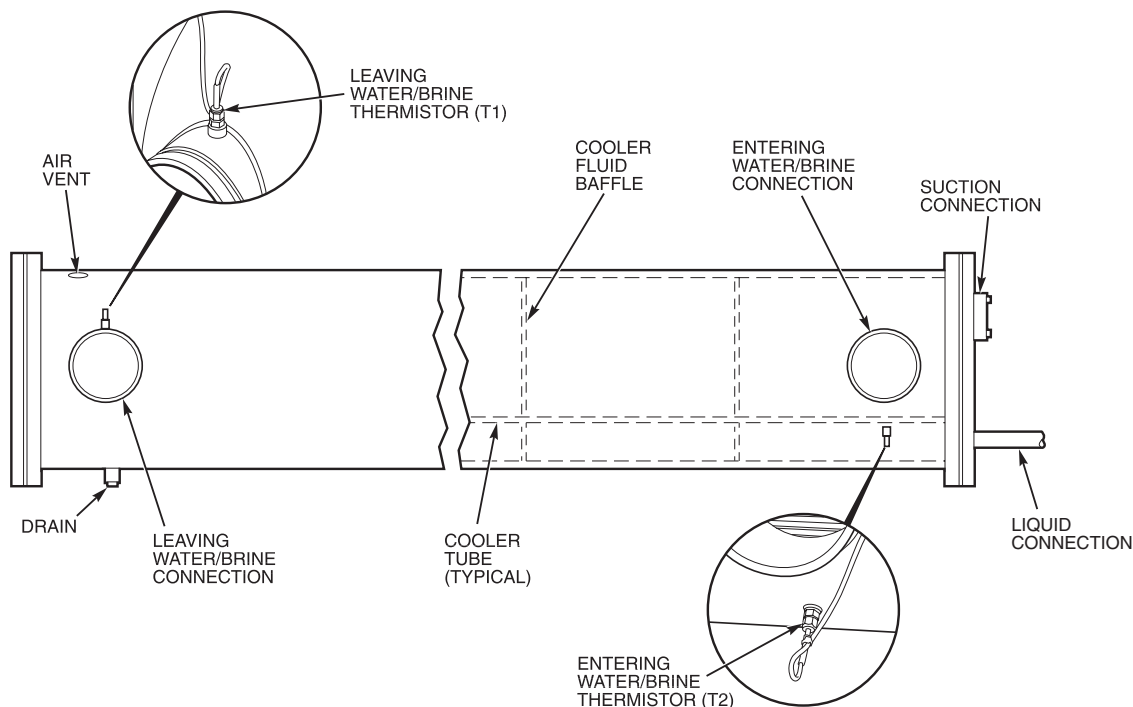

Fig. 28 — Cooler Thermistor Locations
- Cooler may be under pressure. Open the air vent at the top of the cooler, and open the drain on the bottom of the cooler (near the leaving fluid outlet) to drain the cooler. Both the drain and the air vent are located on the leaving fluid end of cooler. See Fig. 28. Remove the cooler water-side strainer.
- Disconnect the conduit and cooler heater wires, if equipped. Remove all thermistors from the cooler, being sure to label all thermistors as they are removed. Thermistor T1 is a well-type thermistor, and thermistor T2 is immersed directly in the fluid. See Fig. 28.
7. Close the air vent at the top of the cooler, and close the drain on the bottom of the cooler near the leaving fluid outlet. Both the drain and the air vent are located on the leaving fluid end of the cooler. See Fig. 28.